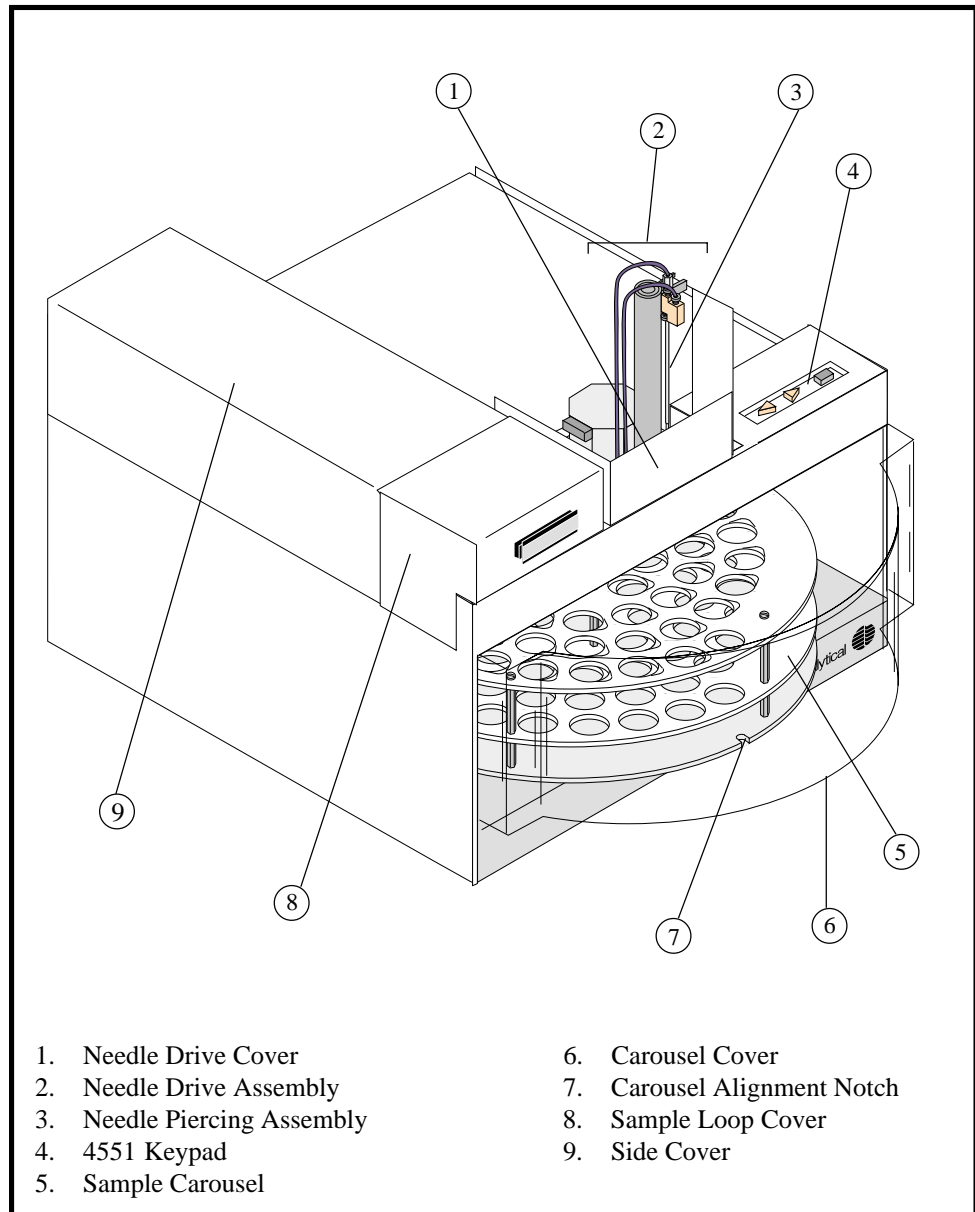

Figure 2.2. Model 4551 Front View
- 4. Model 4551 Vial Autosampler** holds up to 51 samples +1 priority position (see Figure 2.2).